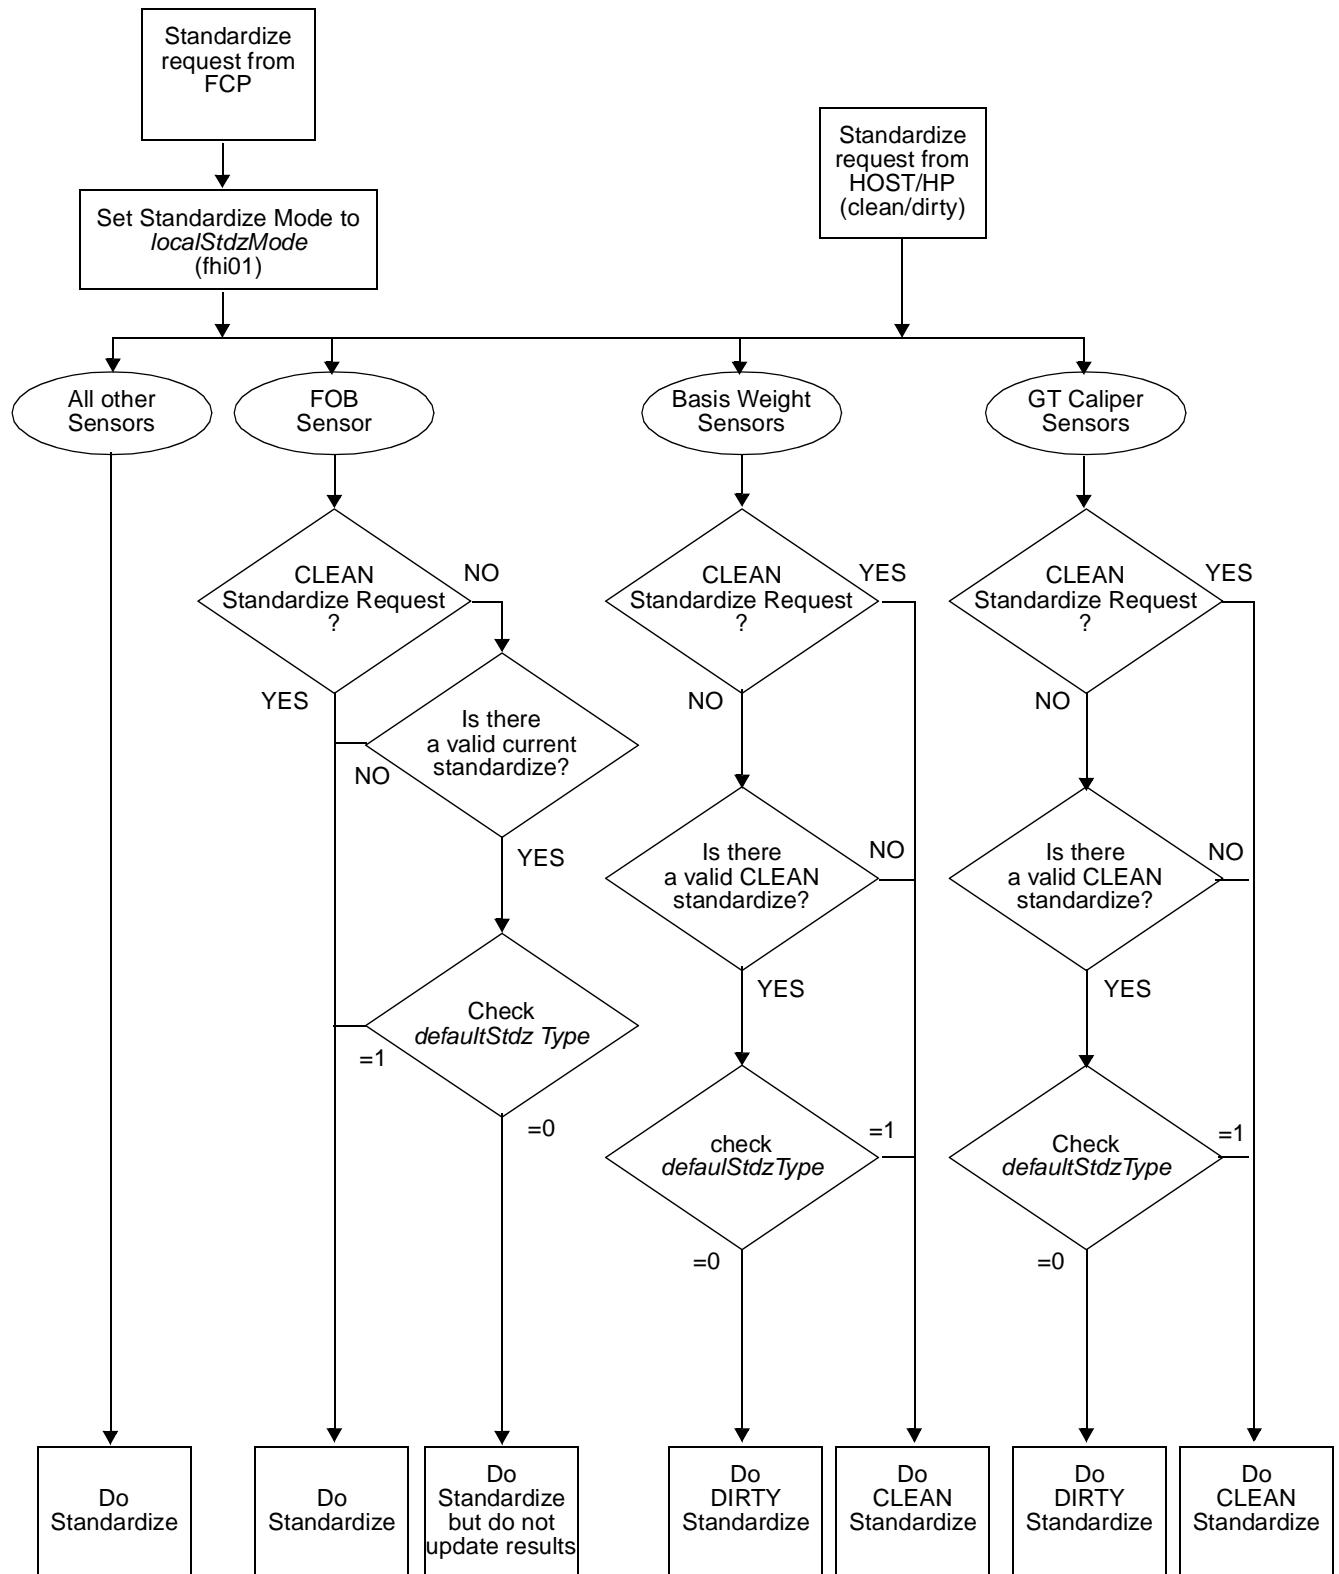

Figure 6-12 Standardize Mode Selection
Figure 6-12 on page 134 describes the standardize CLEAN/DIRTY mode selection that takes place when a standardize is requested from either the Host, the Health Reports (HP), or the Frame Control Panel (FCP). To summarize the three situations, whenever DIRT standardizes occur and are accepted by the sensors; the OptiPak sensor can be set up to basically ignore standardize requests, the Basis Weight sensor will take into account the effect on beam absorption when dust accumulates on the window, and the GT Caliper sensor will filter the sensor zero (SZERO) results for GT Caliper to adjust for the effects caused by dust on the probes.